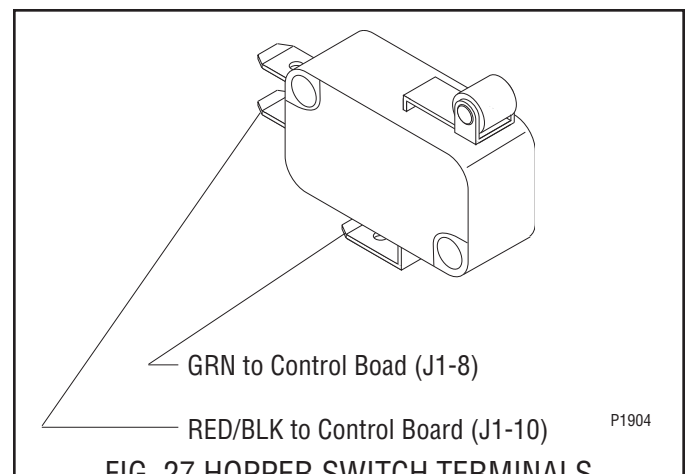

FIG. 27 HOPPER SWITCH TERMINALS
8. Refer to Fig. 27 and reconnect the wires.